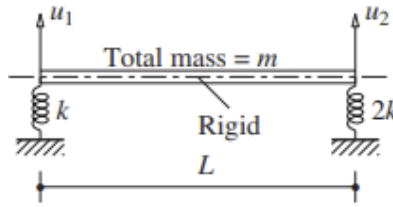

Fig1.1
1. Derive general equation of motion for MDoF system as two-story shear building as shown in fig 1.1
1. Determine the natural vibration frequencies and modes of the system of Fig. 1.1 using the first set of DOFs shown.